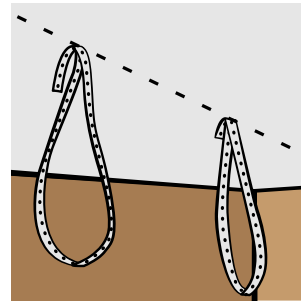

FIG. 10a
- Secure the Hanger Strap strapping to the wall/ceiling at each end of the strap creating open half-loops [FIG. 10a].